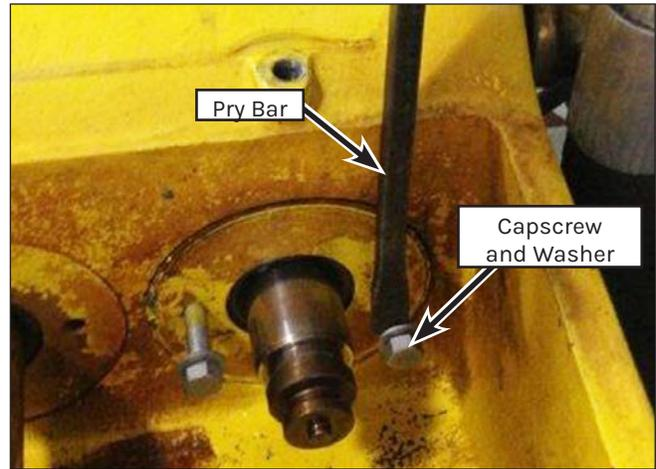

Figure 149: Seal Plate Removal.
11. Install two 1/2"-13 UNC capscrews (Figure 149) into the seal plate.